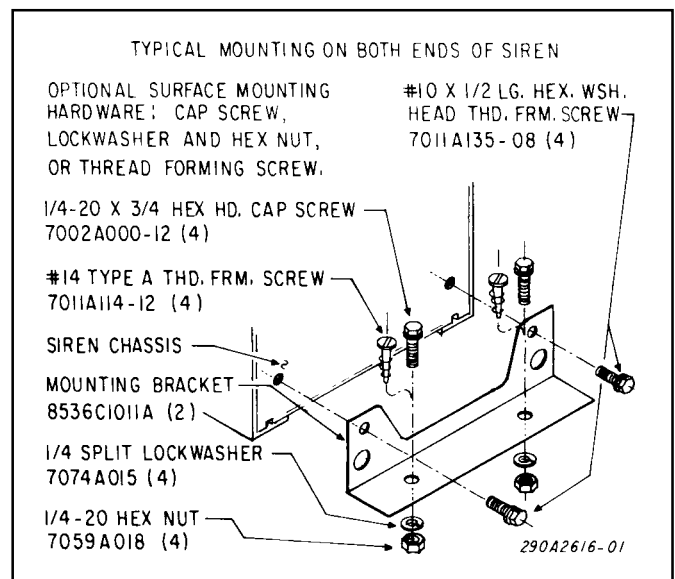

Figure 3-1. Mounting Bracket Installation.
A. Secure both mounting brackets to the chassis with #10 thread-forming hex. head screws (2 for each bracket), as shown in figure 3-1.